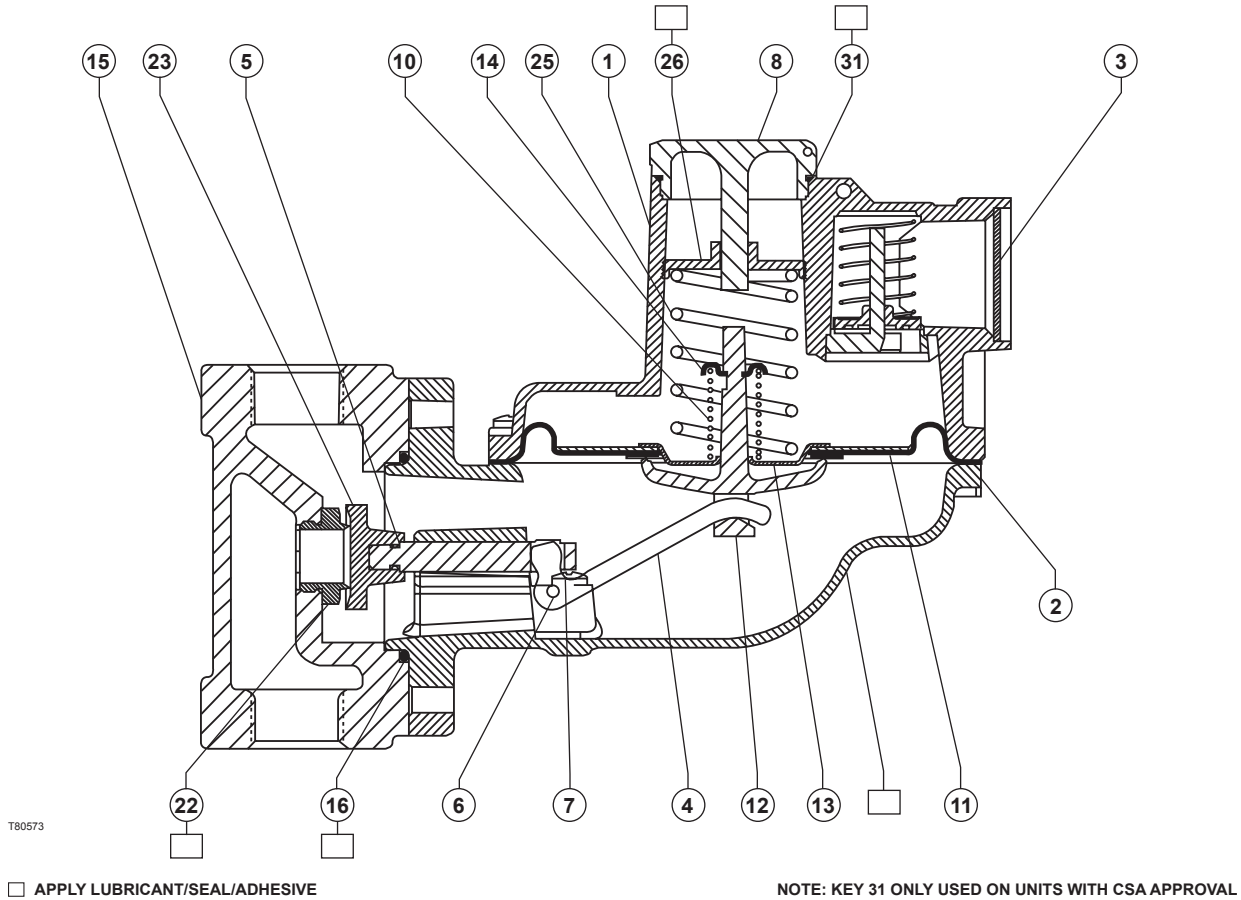

Figure 6. Type HSR Regulator Assembly
To increase the outlet pressure setting of the regulator, the adjusting screw (key 26, Figure 6) must be turned clockwise. This requires removal of the closing cap (key 8, Figure 6). To reduce the outlet pressure setting, turn the adjusting screw counterclockwise. A pressure gauge should always be used to monitor downstream pressure while adjustments are being made. Do not adjust the spring to produce an outlet pressure setting above the limit identified on the information label. If the required pressure setting is not within the range of the spring being used, substitute with the correct spring, see Table 2. When changing the spring, also change the range identified on the information label to indicate the actual pressure range of the spring in use. After the spring adjustment has been completed, replace the closing cap.
While using the following procedures, refer to Figure 6 for key number locations.
As indicated by the square callouts in Figure 6 it is recommended that a good quality pipe thread sealant be applied to pressure connections and fittings and a good quality lubricant be applied to O-rings. Also apply an anti-seize compound to the adjusting screw threads and other areas as needed.